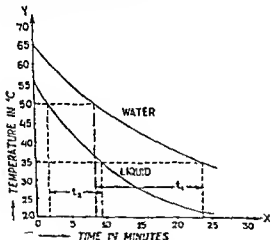

Fig. 8.4
3. Put these calorimeters in their positions inside the cooling apparatus as shown in the figure 8.4. Press a thermometer in each calorimeter. The thermometers are also provided in